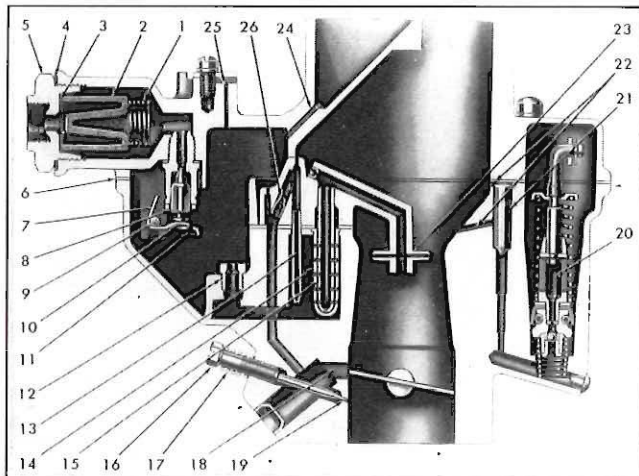

Fig. 2—Type "H" Carburetor—Cross Section
With the greater air flow it was necessary to change the amount of fuel being discharged into the throat of the carburetor. This was accomplished by increasing the size of the idle tube (13) .001" larger than the regular 3 speed transmission model carburetors. The restriction in the idle channel (26) has also been increased .001". When a vehicle is to be used for extended high speed operation, the main metering jet (12) should be replaced with one that is .001" larger (fig. 2).